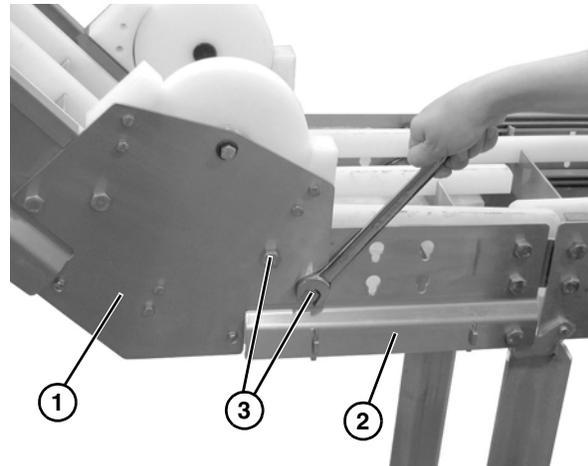

**Figure 8**
2. Attach bar cap (**Figure 8, item 1**) to frame and knuckle.